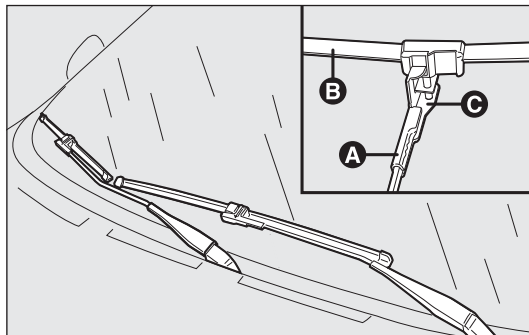

fig. 212
**Replacing the windscreen wiper blades fig. 212**